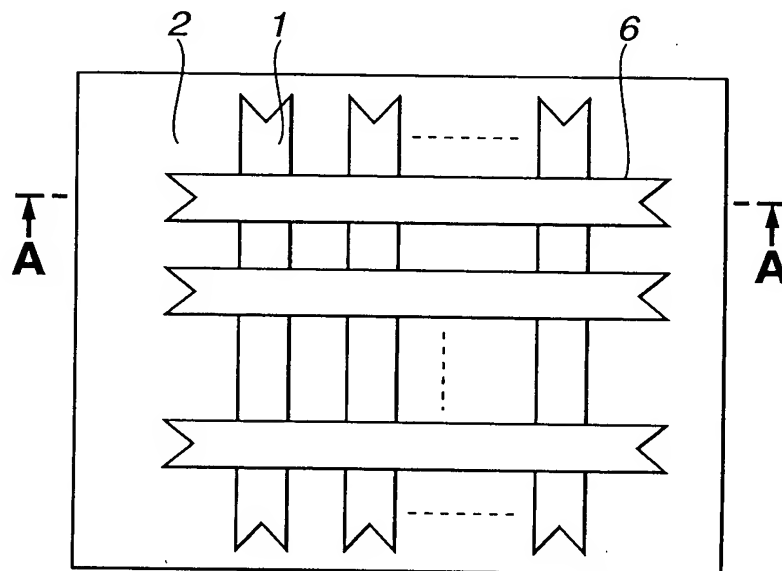

FIG.3A
FIG. 3A is a top view of a multi-layered structure. The structure includes a top layer (2), a middle layer (1), and a bottom layer (6). The top layer (2) and bottom layer (6) have interlocking notches and protrusions. The middle layer (1) is positioned between the top and bottom layers. A dashed line indicates a continuation of the pattern. Arrows A indicate a cross-section line.